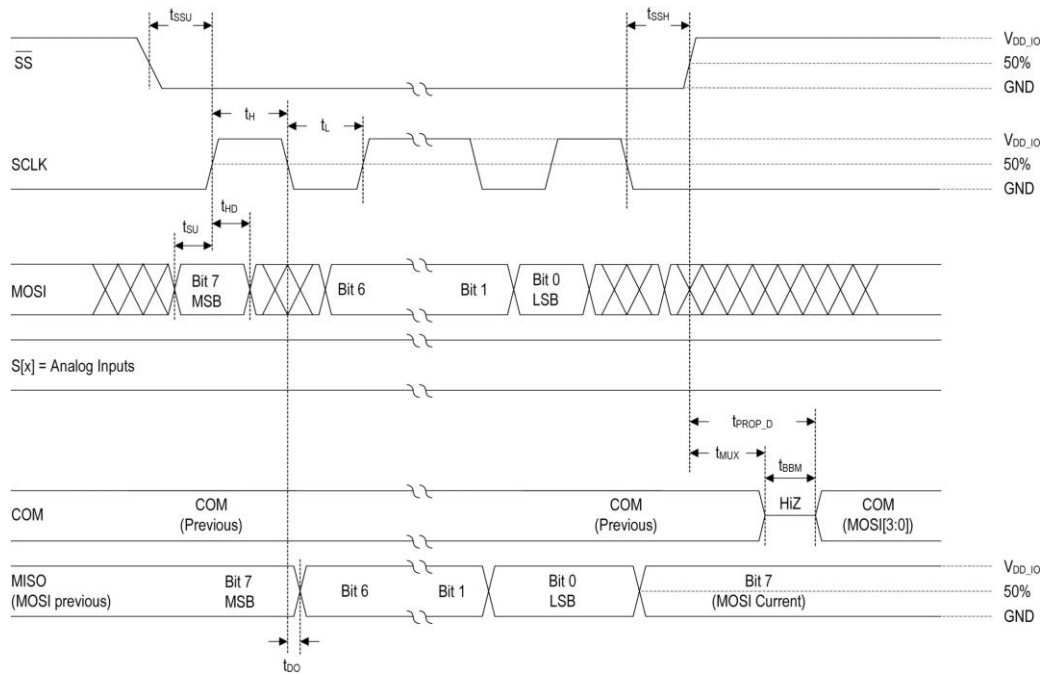

Figure 5: UT16MX117 Timing Diagram
1. See figure 5, Multiplexer Serial Timing (UT16MX117), for detailed timing.